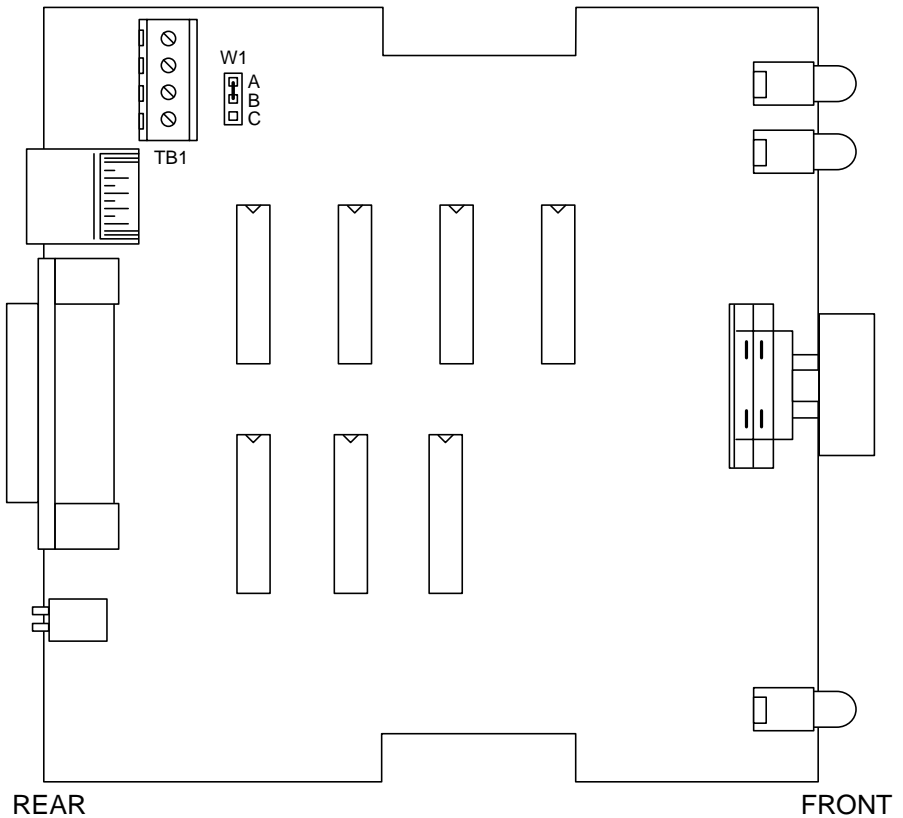
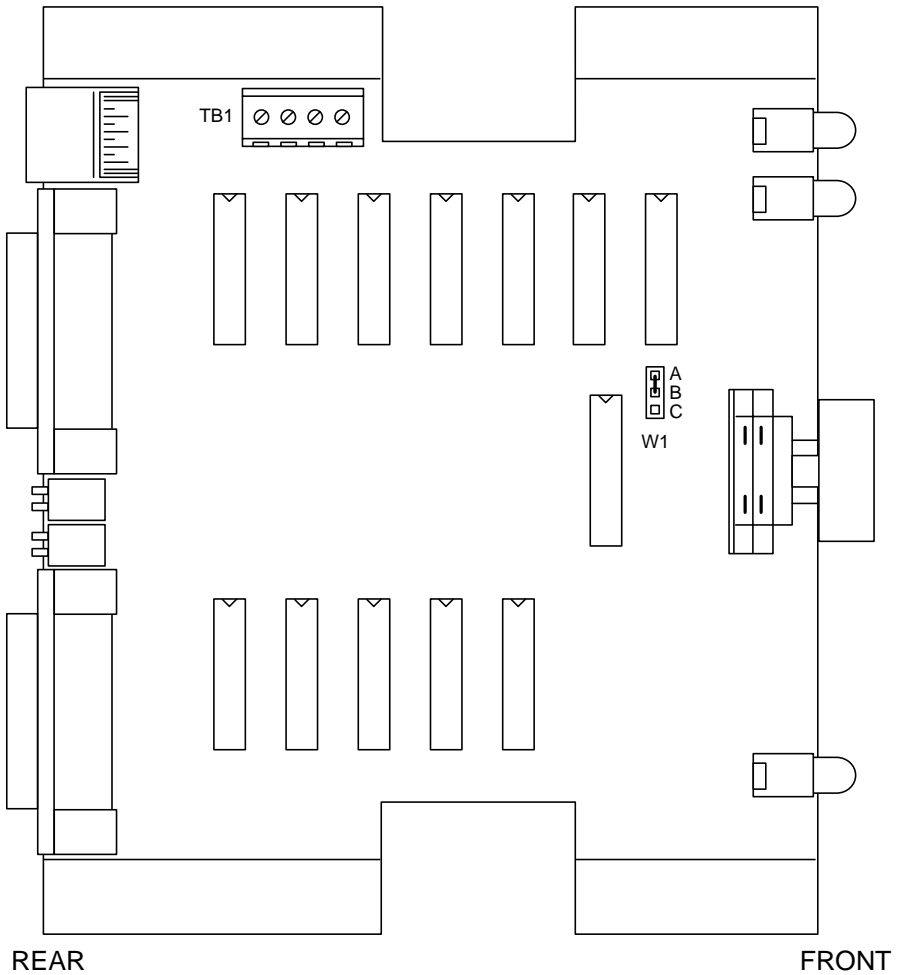
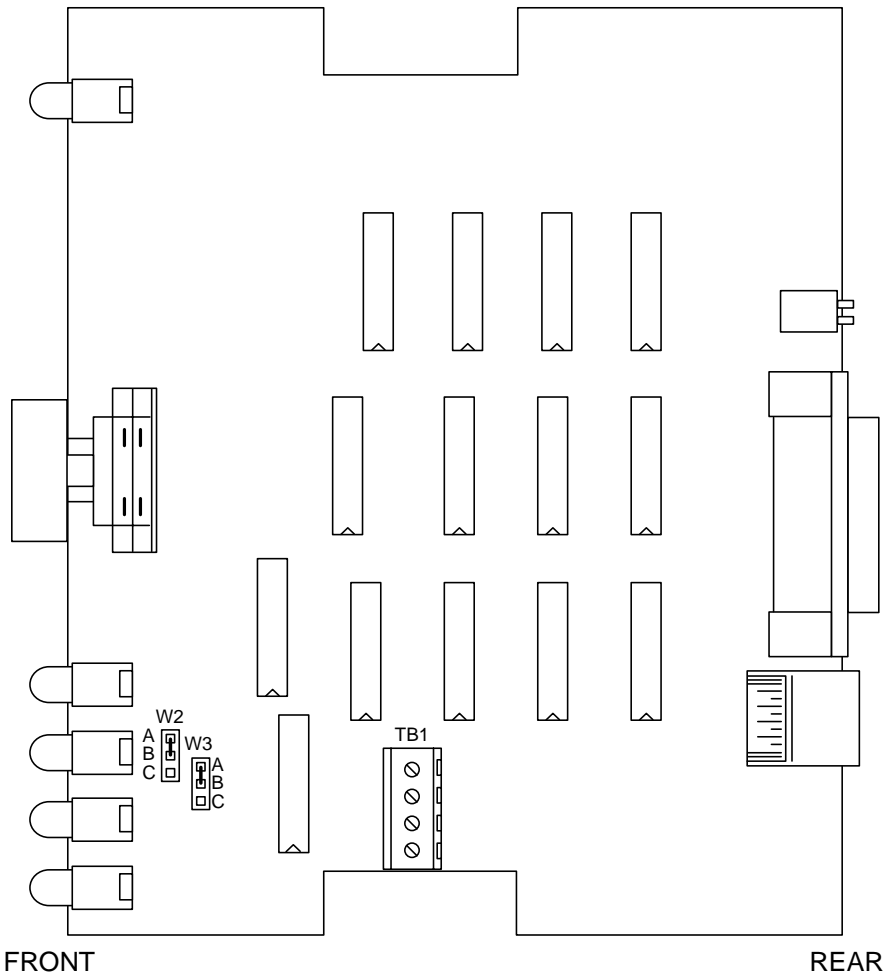

Figure 3-1. PCB layout of the SW980 models.
Figure 3-2. PCB layout of the SW981 models.
Figure 3-3. PCB layout of the SW982 models.
2. Find jumper W1 (for SW980 or SW981 units) or jumpers W2 and W3 (for SW982 units) on the Switch's circuit board. Refer to **Figure 3-1** on the next page if your unit is an SW980 model, to **Figure 3-2** on page 11 if your unit is an SW981 model, or to **Figure 3-3** on page 12 if your unit is an SW982 model. Set the jumper(s) as appropriate for your application:
3. If you will be performing remote switching using a cable that is unterminated at the Switch end, attach the cable's wires to the appropriate positions of the 4-position terminal block labeled "TB1" (refer to **Figures 3-1** through **3-3** on pages 10 through 12 and to **Tables 4-1** and **4-2** on pages 20 and 21). Connect the ground of the remote driver, or one side of the dry contact, to (either of) the terminal block's ground pin(s). Connect the remote driver's output(s), or the other side of the dry contact, to the terminal block's input pin(s).